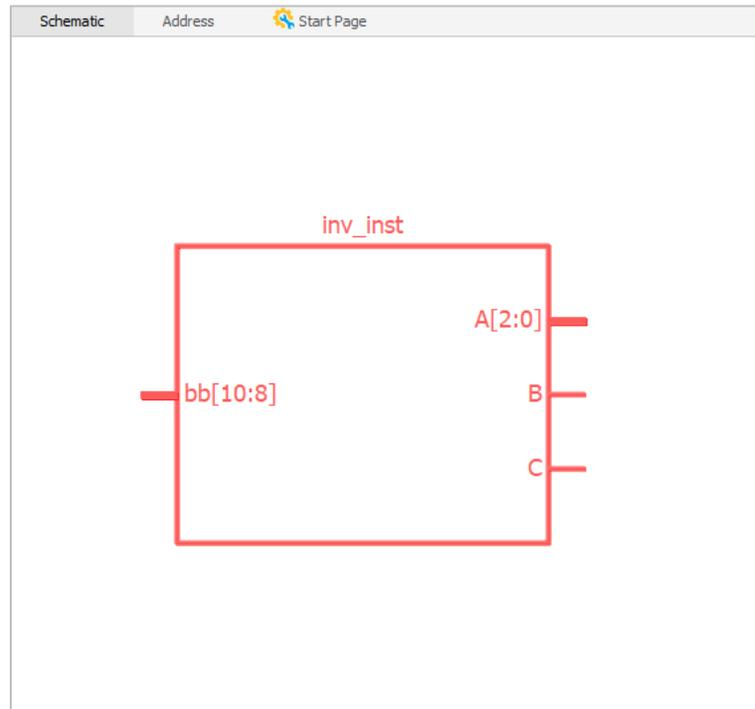

Figure 2.36. Schematic View Shows the Custom RTL Module
- Click **OK**. The schematic block for the RTL module in red appears in the Schematic view (Figure 2.36).